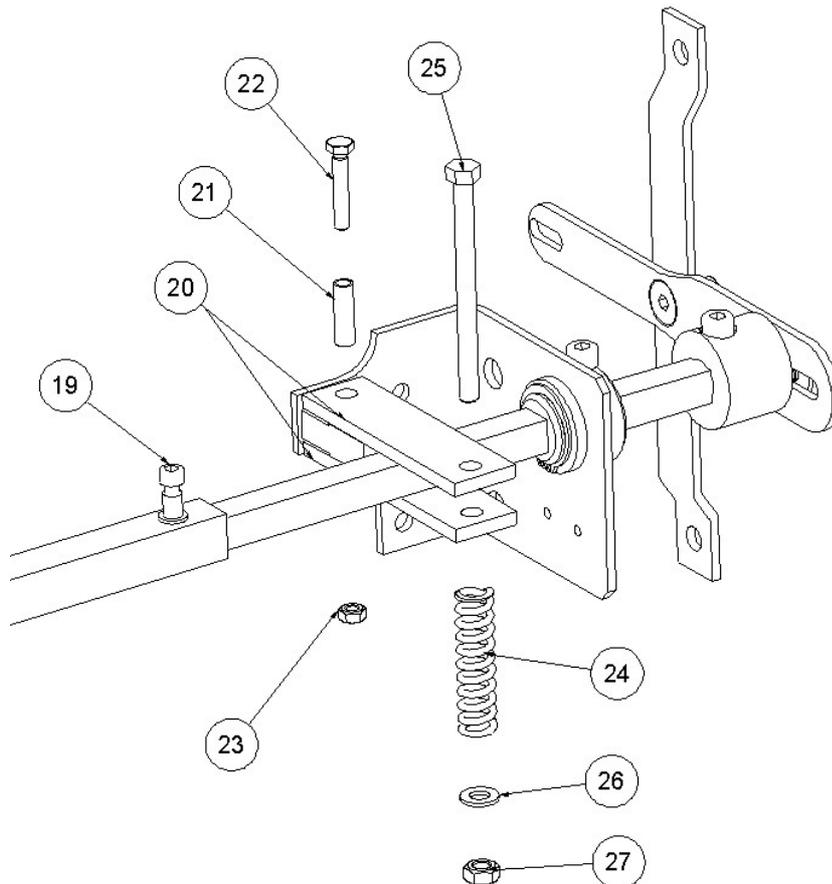

Figure.6
7. TENSOR GROUP ASSEMBLY: The two axle supports (20) must be aligned with the tensing support (one in upper part and other in lower part), then insert the tensing tip (21) and fix this group with the M6 X 35 DIN 933 screw (22) and M6 DIN 985 Autoblock nut (23). Next, the M8 X 100 DIN 931 screw (25), must be introduced in the free drill holes placed at the axle supports and through the spring (24), as can be seen in the figure. Finally the group is fixed by a M8 DIN 125 washer (26) and a M8 DIN 985 Autoblock nut (27) -Fig.6-.